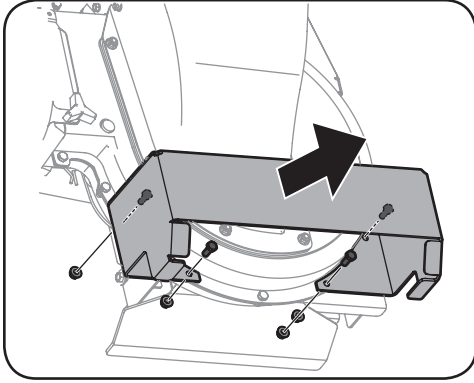

Figure 5-14
- Remove the front wheel bracket by loosening the four flange nuts (and hex bolts). Retain hardware. See Figure 5-14.